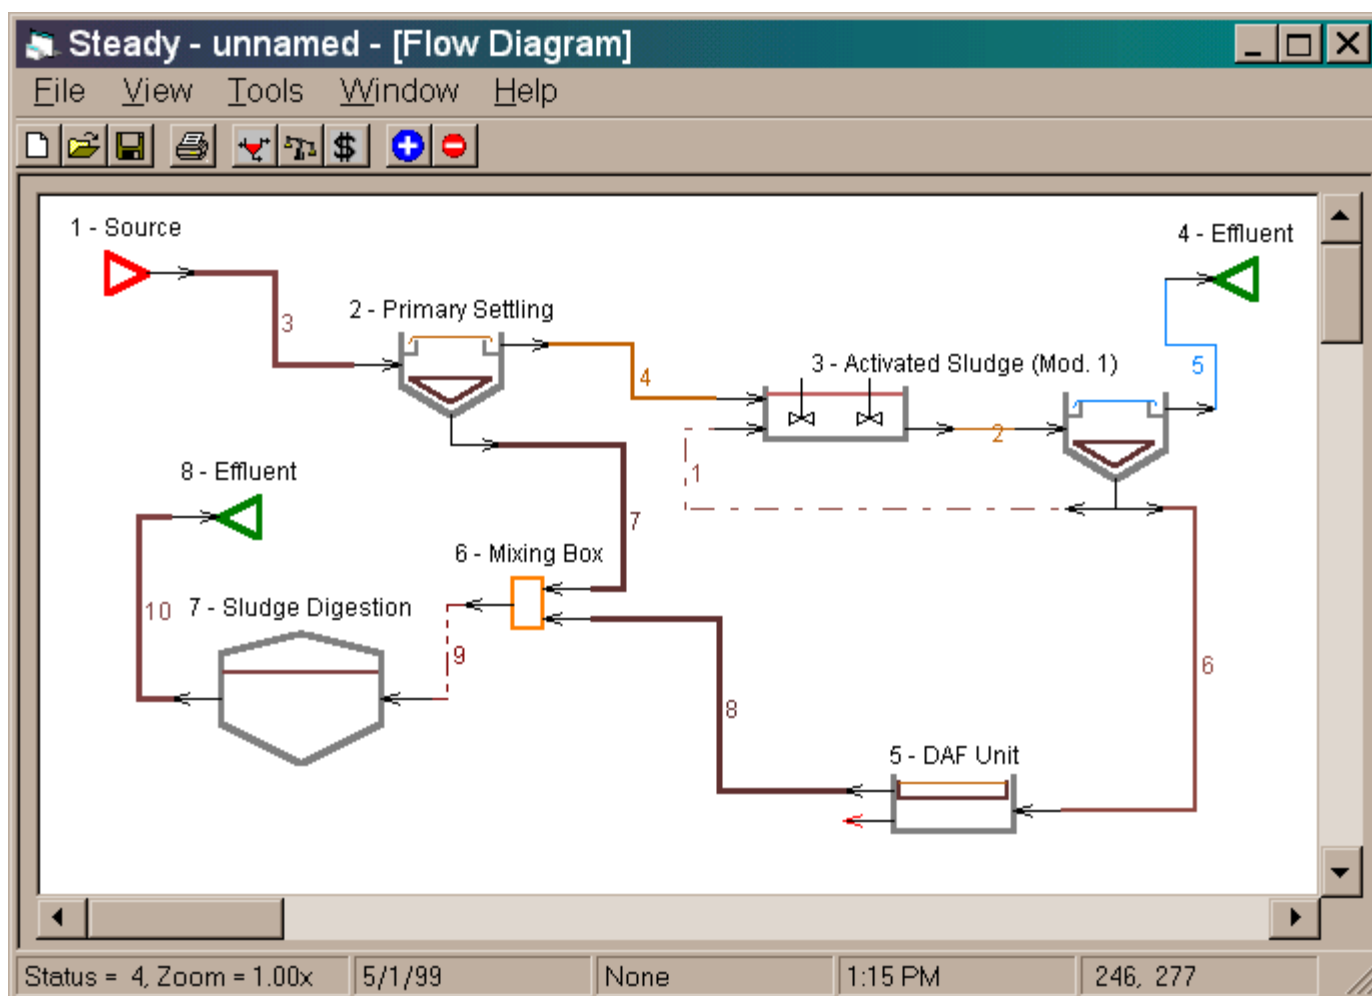

Figure 8 - Location of Digester
16. Add a sludge digester (**Sludge Treatment/Sludge Digestion**) and a second effluent. Change the flow direction of the digester and place it as shown in Figure 8. Move reactors as necessary. Connect the combined sludge from the Mixing Box to the digester and the digester to the effluent.